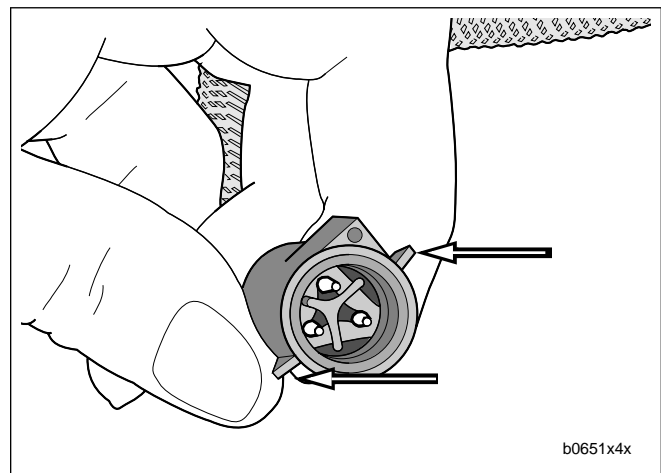

Figure 4-81. Tabs on TP Sensor Connector [88A]
5. See Figure 4-81. Attach throttle position sensor connector [88]. Slots on female connector [88B] must fully engage tabs on male connector housing [88A].